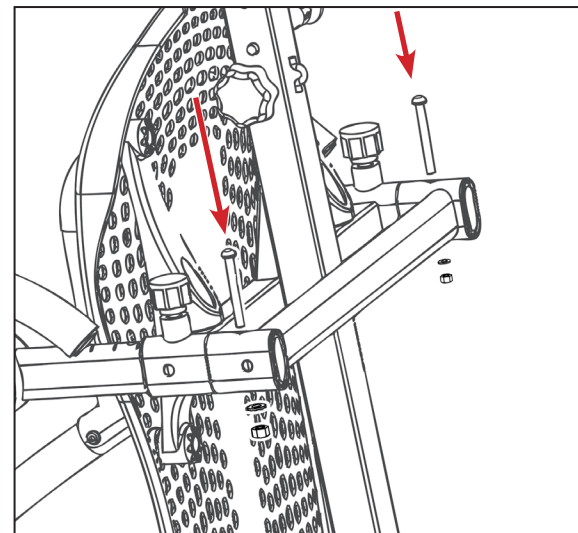

Figure 13
- Re-insert the bolts and secure with the washers and nuts, tightening with the wrenches provided (IA-1149 & IA-1147) (Figure 13).